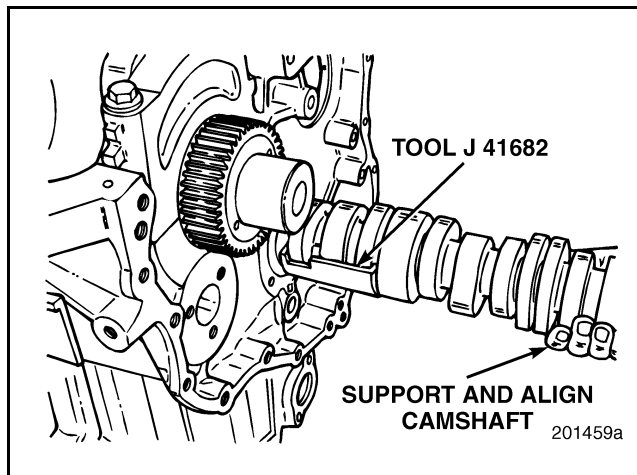

Figure 454 — Camshaft Installation
11. Slide the camshaft into the block with the cam installation guide facing down toward the floor. Refer to Figure 454.